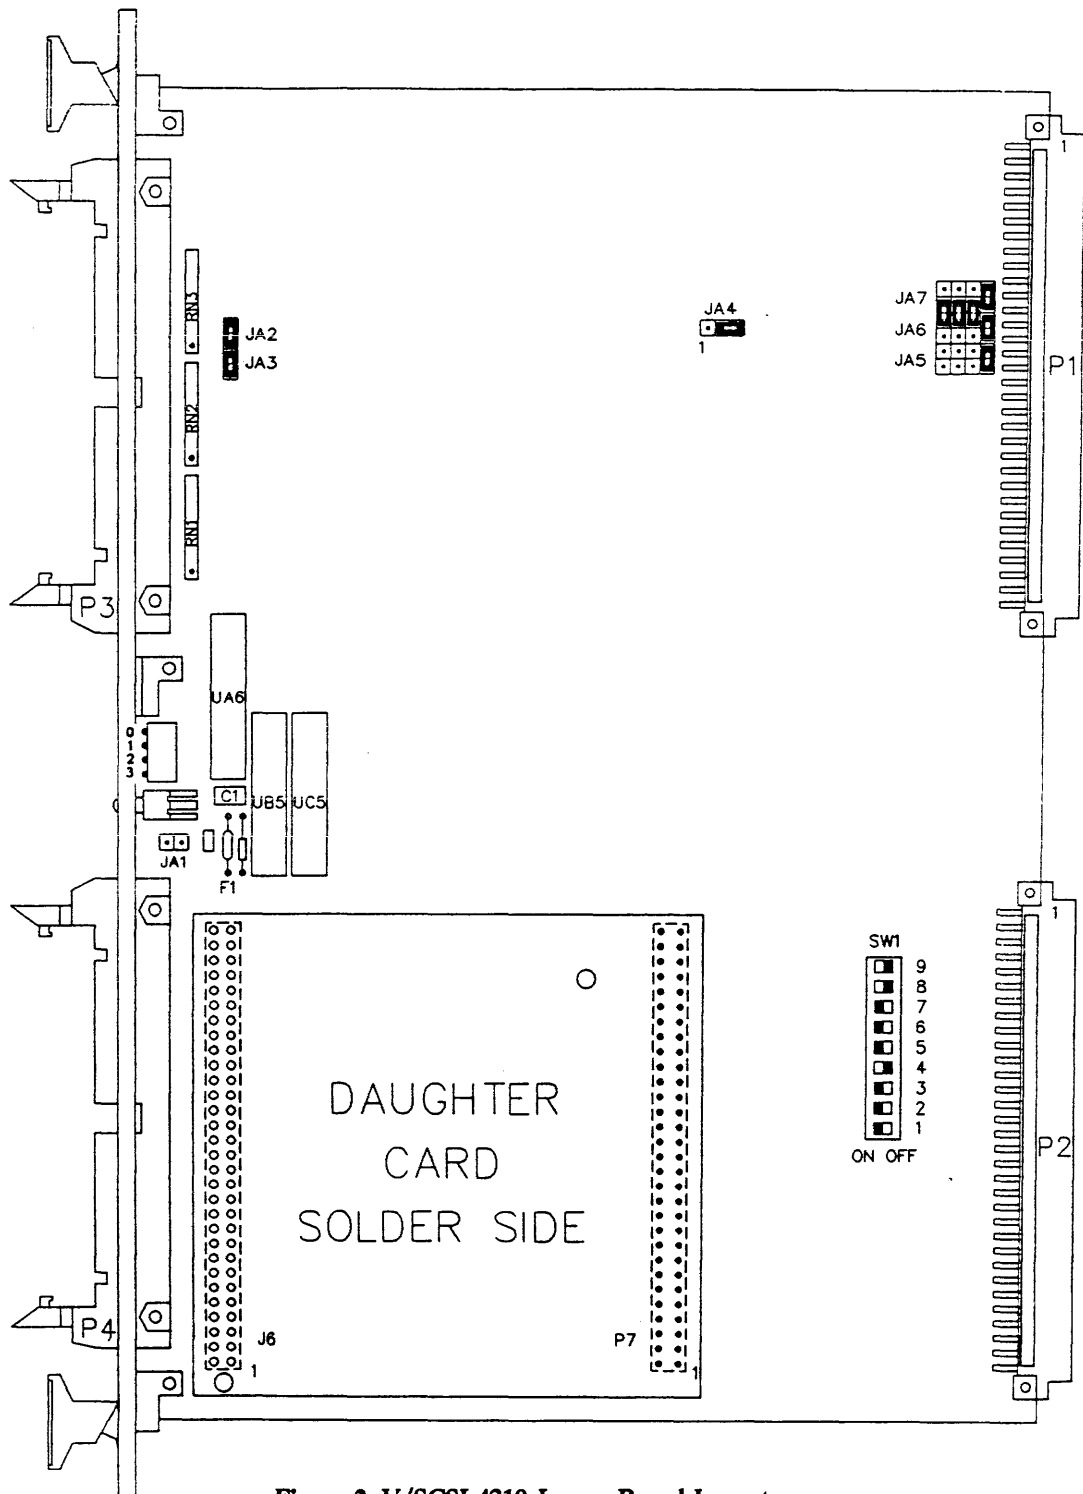

Figure 2. V/SCSI 4210 Jaguar Board Layout
- front panel I/O vs. routing SCSI signals off the P2 connector (to determine the location of the connectors, refer to Fig. 2 or 3)